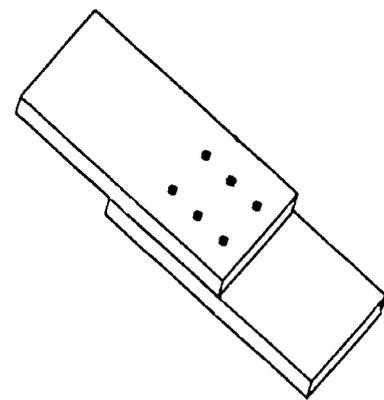

Figure 4. Fastener 3: the bolts are spaced evenly.
4. **Fastener 3* - Bolts:** Bolt together the next two boards. First, measure and evenly space six holes for the bolts. Drill 1/4-inch diameter holes through the boards. Position the bolts and tighten the nuts (see Figure 4). These boards can also be fastened at right angles.